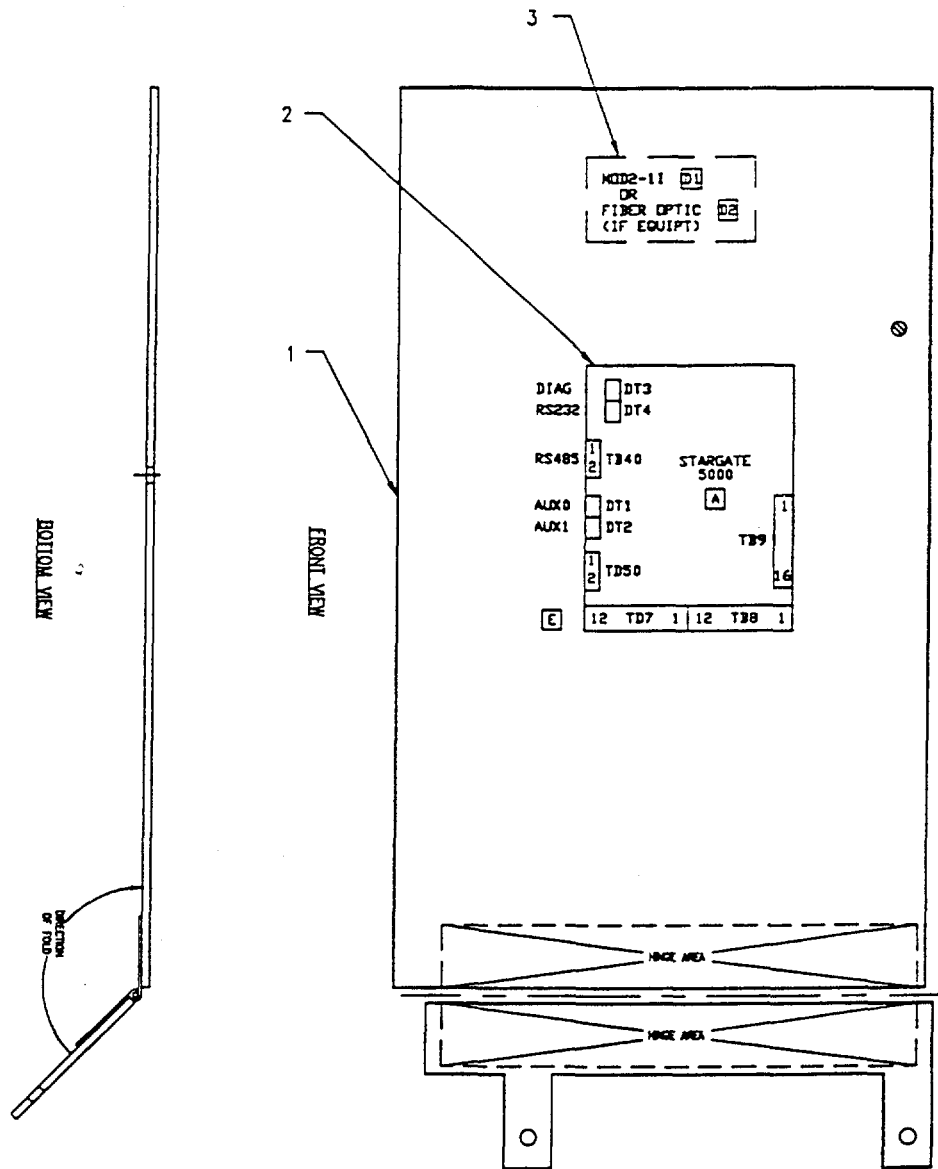

Figure 1-15. J-SIIDS To Stargate Interface
k. J-SIIDS to Stargate Interface (See Figure 1-15)
(2) **Stargate 5000 PWA (item 2).** Contains the programs to monitor the status of optional devices and process this information to the PMC. The Stargate 5000 PWA is used in the Interior RADC.